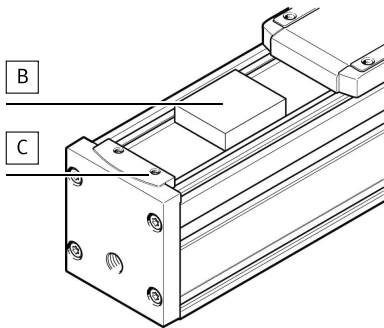

Fig. 9
1. Loosen the screws [C] → Fig.9.
3. Tighten cover strip with a clamping element [B] → Fig.9.